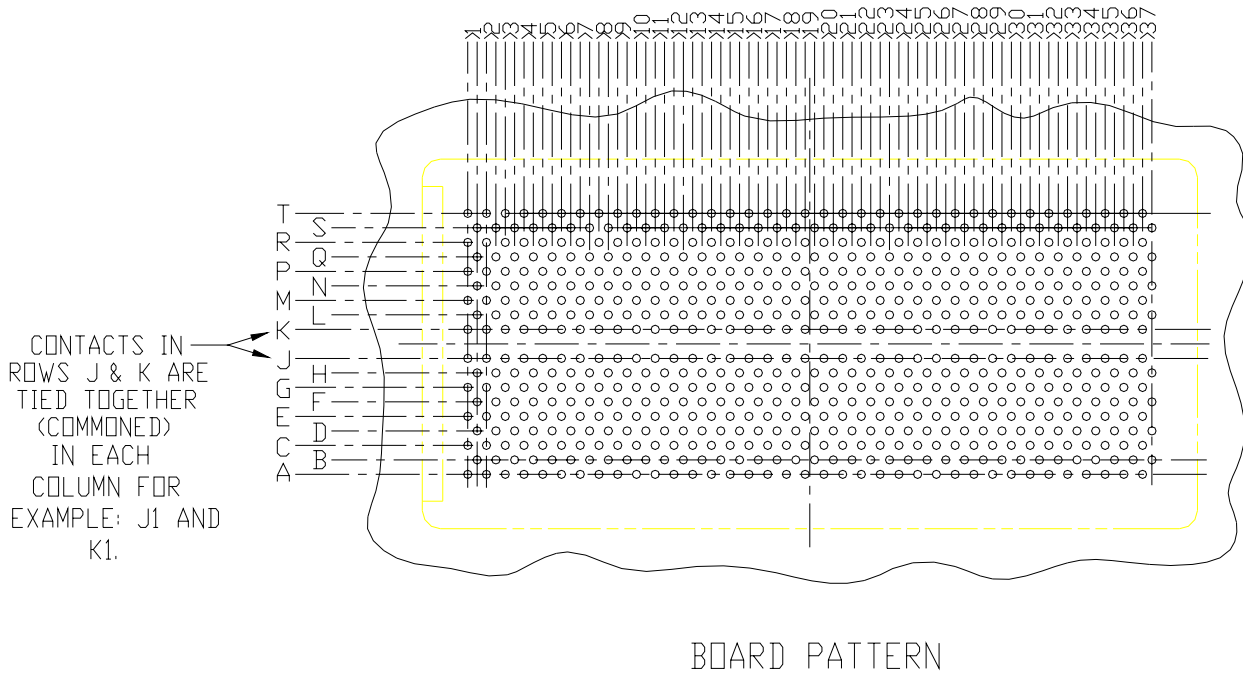
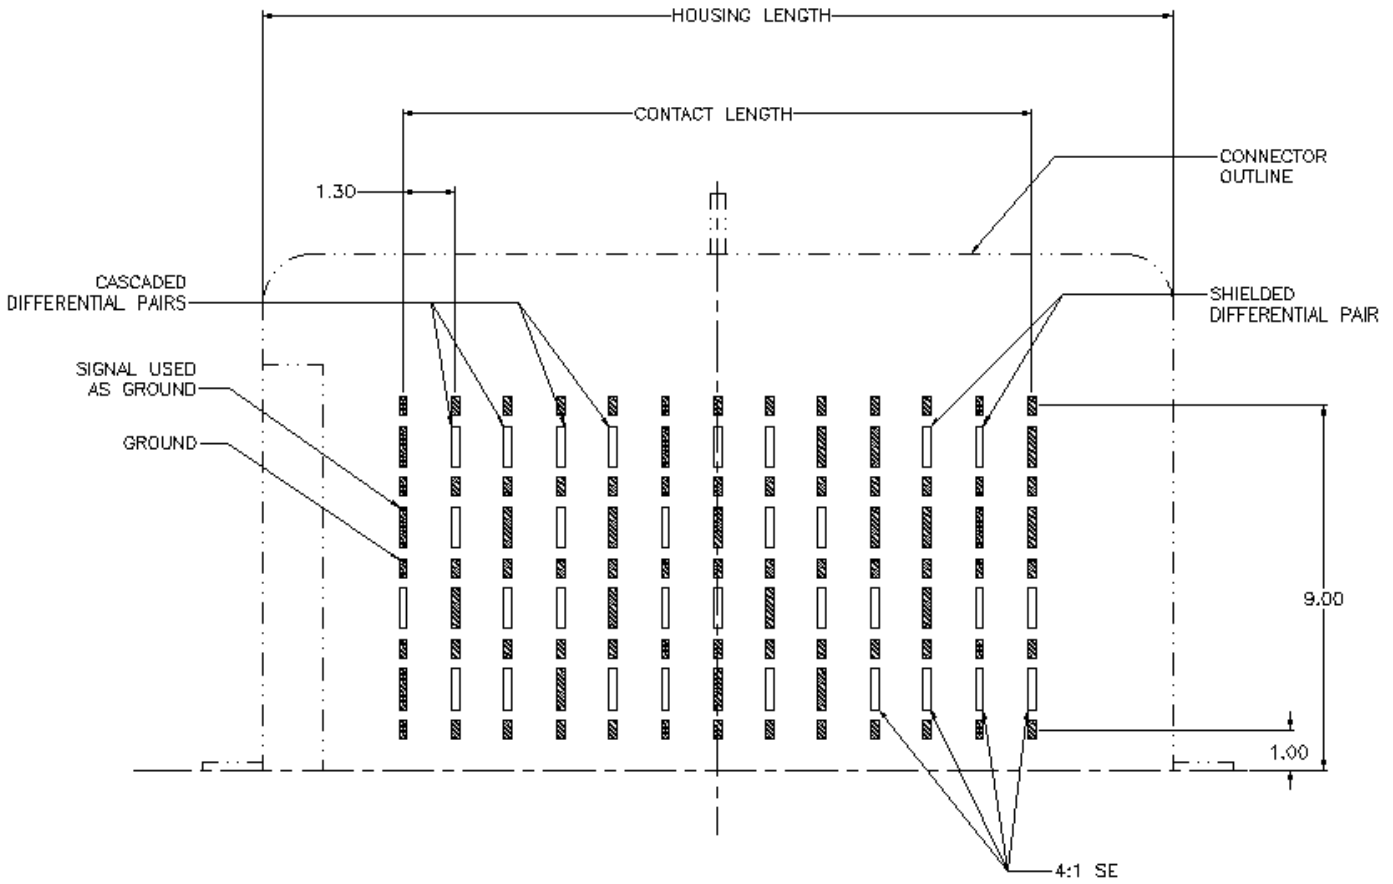
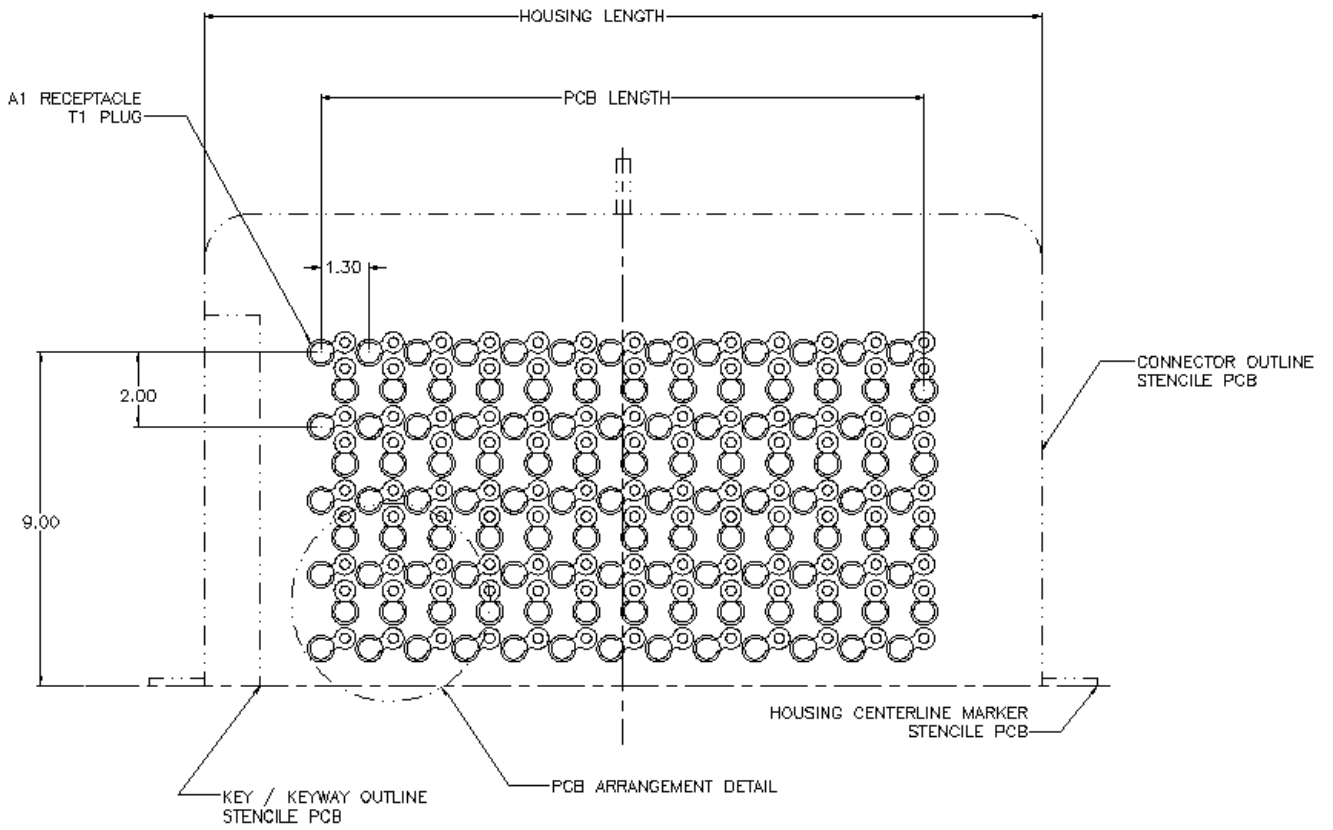

Figure 2A: Rows J & K Example of Each Column Tied Together
Figure 2B: Contact Interface Example
Figure 3: Pad Layout Example
Proper PCB design affects connector reliability and performance. The connector uses dedicated ground contacts to provide impedance matching and low x-talk. This frees up the signal contacts so that they can be configured, as the application requires, while limiting any impact on performance. The following recommendations are intended to ensure reliable electrical connections, while maximizing manufacturing yields and aiding in possible rework applications. Figure 2A illustrates that Rows J and K in each connector column are tied together and appropriate actions should be considered when designing the board. Figure 2B is an example of how to configure the connector for both 100 ohm differential and 50 ohm single ended applications. Figures 3 through 7 further provide examples of the possible associated pad and trace routings required to distribute the signals. Since this hypothetical layout uses only ½ of the 104 contact positions, it should be used for reference purposes only.
- **Rows J and K are joined together in each column. For example positions J1 and K1 are commoned. Please see figure 2A. Users must avoid assigning different circuits to rows J and K within each column to prevent electrical shorts. Positions J and K in adjacent columns (J2 and K2 in this example) are electrically isolated and may be assigned to a different circuit.**